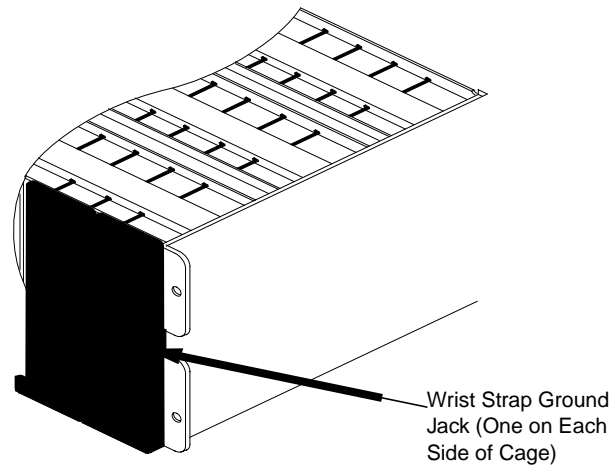

Figure 10-1: Location of Ground Jack for Wrist Strap Connection
1. Wear a wrist strap (Motorola Part No. 4280385A59, or equivalent) during all service procedures to minimize static buildup. The cage contains ground jacks to connect to the wrist strap (see Figure 10-1). Connect the wrist strap.